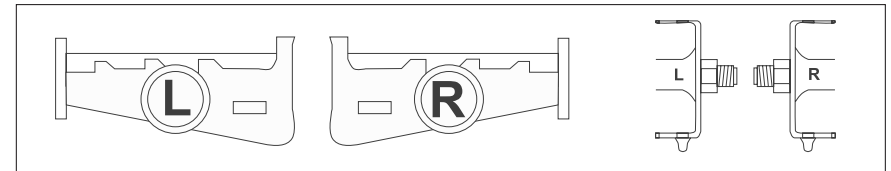

Fig. 14
Step 5: Installing Pedals (Refer to Fig. 14)